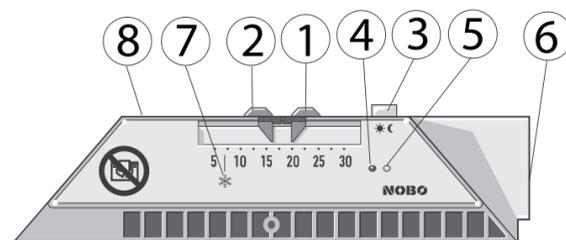

Fig. 1 / Abb.1 / Kuva 1
2. CONTROL PANEL (fig. 1)
Set the desired temperature levels for comfort and economy periods. Use override button, fig.1 (3) to switch the heater to economy function when the central unit is programmed to comfort, and vice versa. If the function unit is used without being programmed on a central unit, the override button will just toggle between economy mode and comfort mode. Light diode (4) alternates between red and green depending on whether the heater has received a comfort or an economy signal from the central unit or override button.
2. BEDIENFELD (Bild 1)
2. PANNEAU DE COMMANDE (fig. 1)